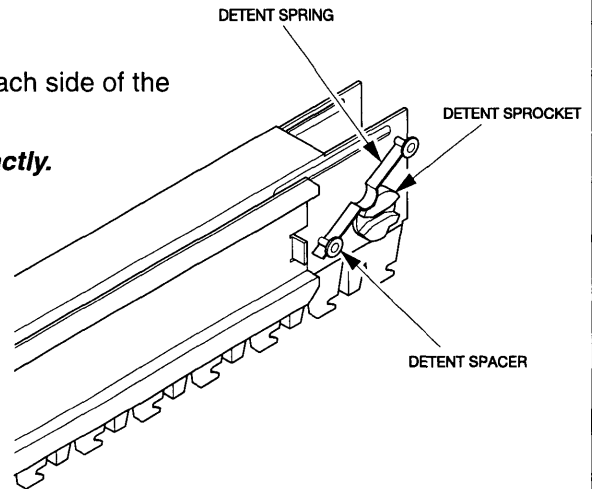

Figure 10
2. Re-engage the detent spring, making sure it captures one of the depressions in the detent sprocket (figure 10).